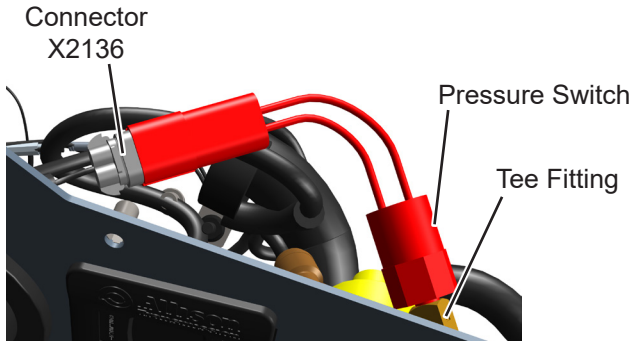

Figure 4
- Disconnect pressure switch connector from cab harness connector X2136. See Figure 4.
11. Loosen and remove pressure switch from park brake valve signal line tee fitting. See Figure 4.